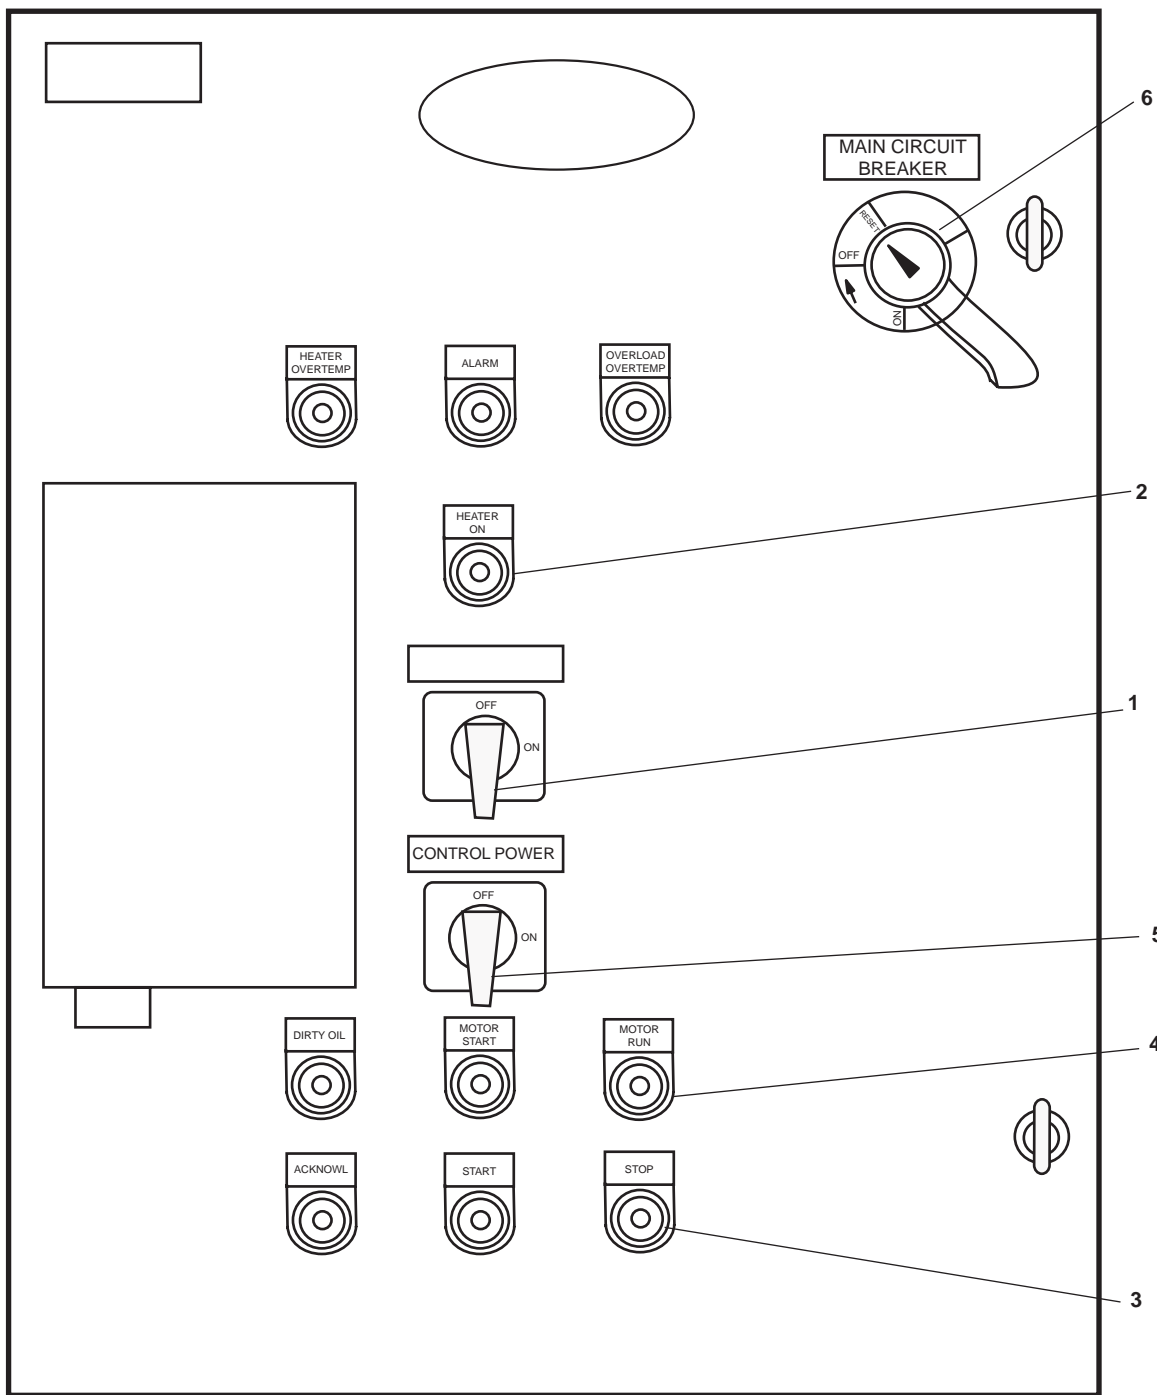

Figure 1. Lube Oil Purifier Control Panel
- d. Verify that the MOTOR RUN indicator (figure 1, item 4) goes out.
- e. Set the CONTROL POWER switch (figure 1, item 5) to OFF.
- f. Set the MAIN CIRCUIT BREAKER (figure 1, item 6) to OFF.